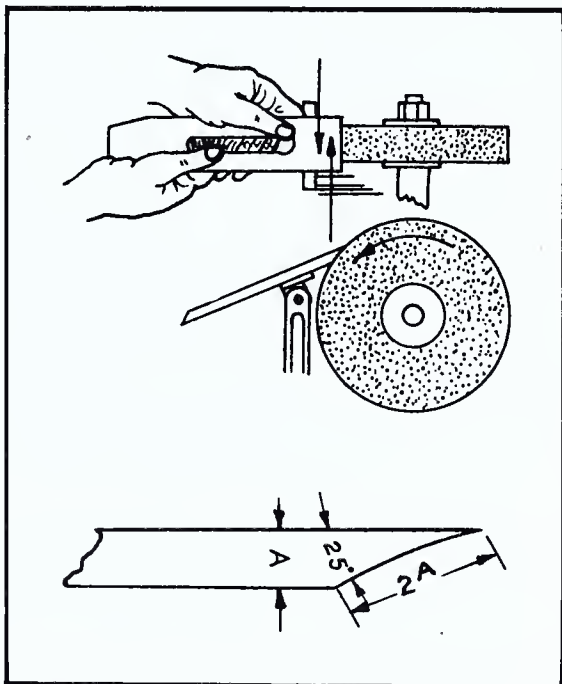

FIG. 141 — Grinding a Plane Iron
2. Remove the plane iron and apply to the grinding wheel with its bevel turned down (Fig. 141). Grip the plane iron in one hand, with the thumb on the top and the index finger resting against the edge of the tool guide under the plane iron, as shown in Fig. 141.
Lightly apply the plane iron to the wheel at first, and then inspect for proper width of bevel. As shown in Fig. 141, the bevel should be from 2 to $2\frac{1}{2}$ times as wide as the thickness of the blade. When used to cut hardwood the plane iron will hold a sharp edge longer if this bevel is only as long as twice the thickness of the plane iron.
3. When the proper width of bevel is obtained, keep the same grip with the guide hand so that the bevel will remain uniform. Place the other hand on top of the plane iron to help guide it and work the iron from one side of the stone to the other, as shown in Fig. 141.